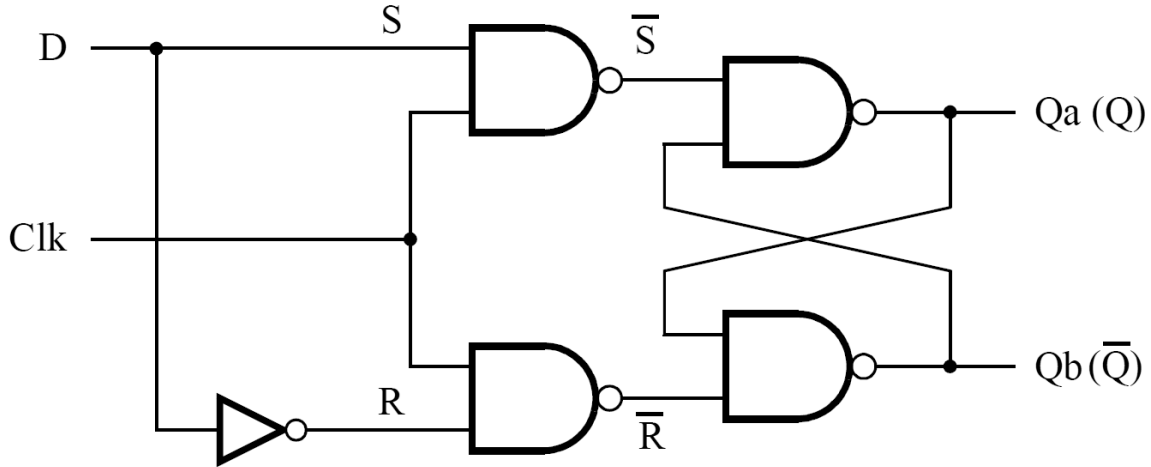
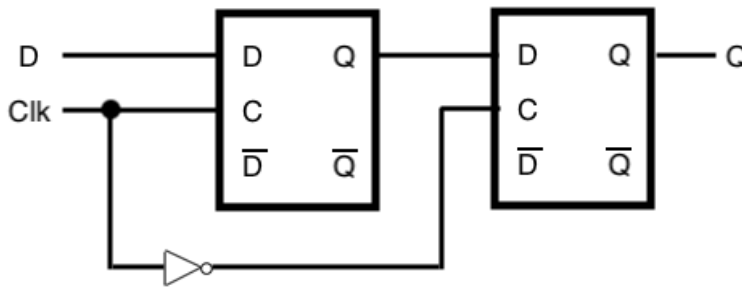

Figure 1: Circuit for a gated D latch.
Figure 2: Circuit for a master slave flip flop using gated D latches.
To explore the behaviour of latches, in this lab you will create a latch using *NAND* and *NOT* logic gates. Figure 1 shows the circuit for a gated D latch.
The most common storage element today is the *edge-triggered D flip-flop*. One way to build an edge-triggered D flip-flop is to connect two D latches in series, such that the two D latches use opposite levels of the clock for gating the latch. This is called a master-slave flip-flop, see Fig. 2.
1. In Logisim, build this gated D latch from Fig. 1 and the master slave flip-flop from Fig. 2, each in its own module. The flip-flop should be implemented using the module you create for the D latch, and the latch should make use of the logic gates available in the *Gates* component set. Note that for this part you should still use the default input type for signal *Clk* (not the special clock signal in the *Wiring* set). **(PRELAB)**